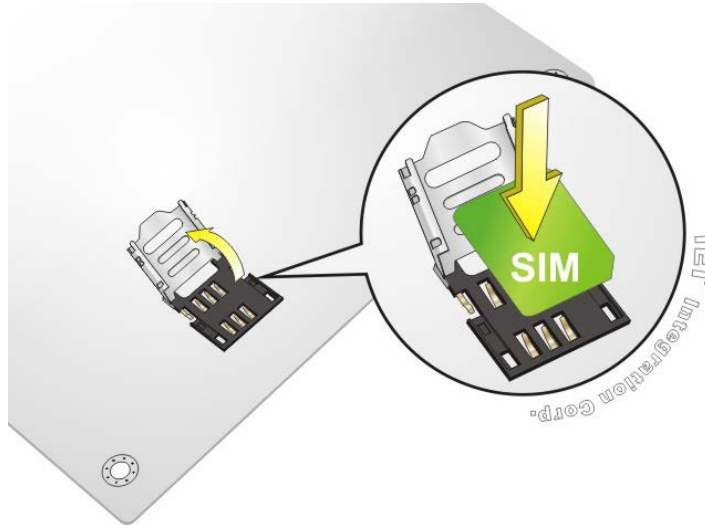

Figure 4-13: SIM Card Installation
Step 3: Open the slot cover and place a SIM card onto the slot. The cut mark on the corner should be facing away from the slot as shown in **Figure 4-13**.